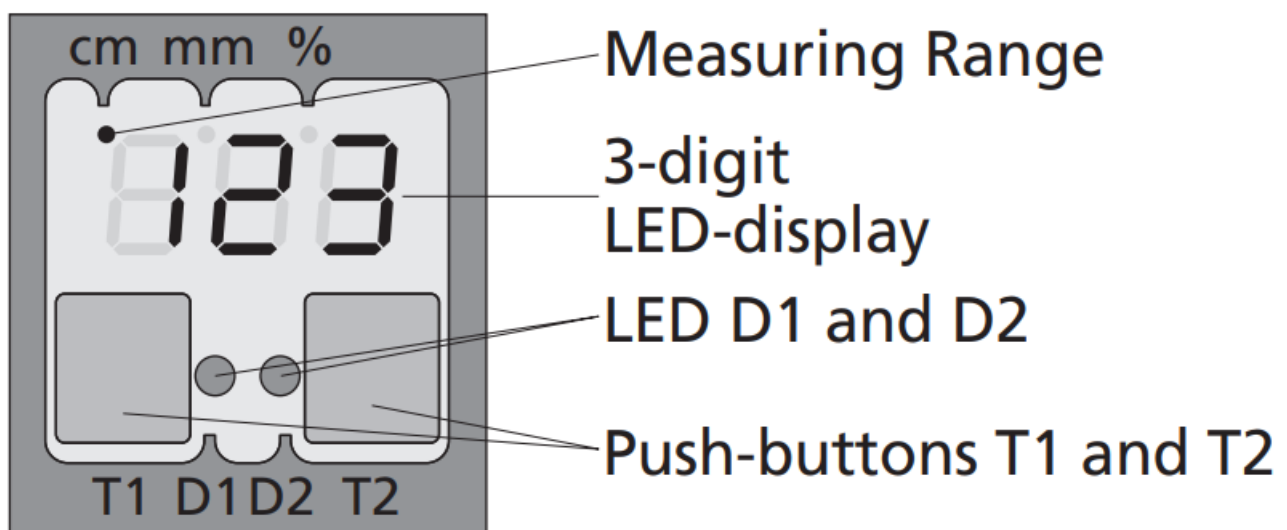

Fig. 2: TouchControl/LED display
- ➔ Set the parameters of the sensor manually via TouchControl (see Fig. 2 and Diagram 1)